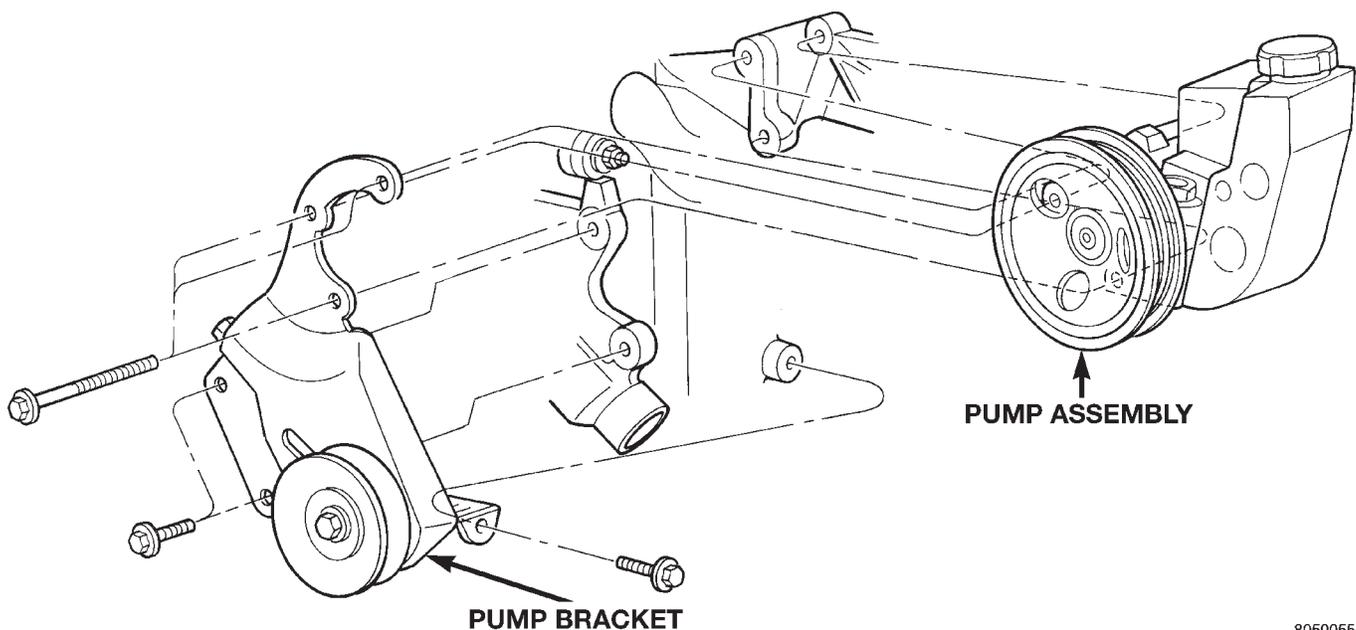

Fig. 3 Pump Mounting - 4.0L
(1) Remove serpentine drive belt, refer to Group 7 Cooling.
(2) Vehicles equipped with Speed Proportional Steering, disconnect actuator harness.
(3) Remove pressure and return hoses from pump and drain pump.
(4) Remove 3 pump mounting bolts through pulley access holes.
(5) Loosen the 3 pump bracket bolts (Fig. 3).
(6) Tilt pump downward and remove from engine.
(7) Remove pulley from pump.